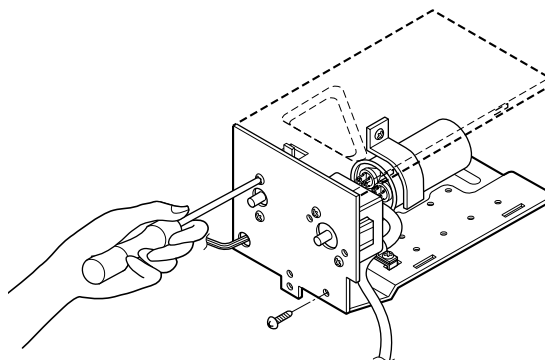

Figure 11
6. Re-install the components by referring to the above removal procedure. (See Figure 11)